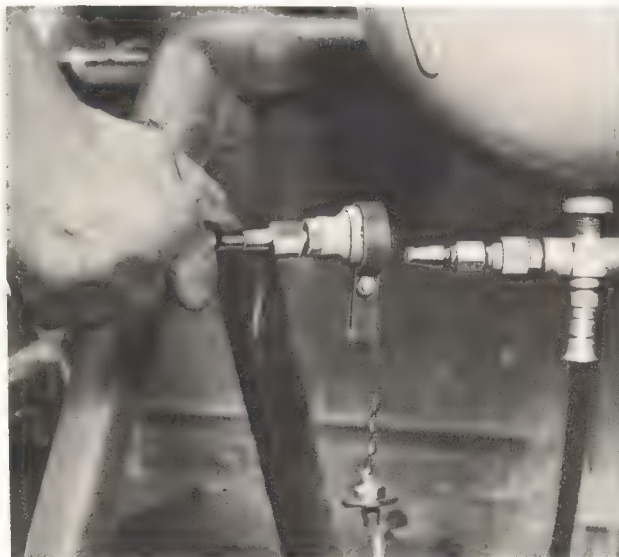

Figure 15 - Refilling Turret Oxygen Cylinder
a. **SUPPLY SYSTEM.** - Breathing oxygen is stored in 18 type G-1 cylinders and is distributed by four self-contained systems, each serving two or more crew stations, which prevent complete loss of supply should a distribution line be severed. A check valve at each cylinder prevents loss of system pressure through a punctured cylinder. Each fully charged G-1 cylinder will supply one man with oxygen for 5 hours at 30,000 feet. The main system is filled to 400 pounds per square inch pressure through a filler valve just aft of the forward entrance hatch. On some airplanes a separate type F-1 cylinder at each power turret provides 2-1/2 hours of oxygen for one man at 30,000 feet and is refilled from the main system through a valve on a flexible hose. (See figure 15) Portable oxygen units provided for each crew member may be filled at the recharging valve at any demand regulator.